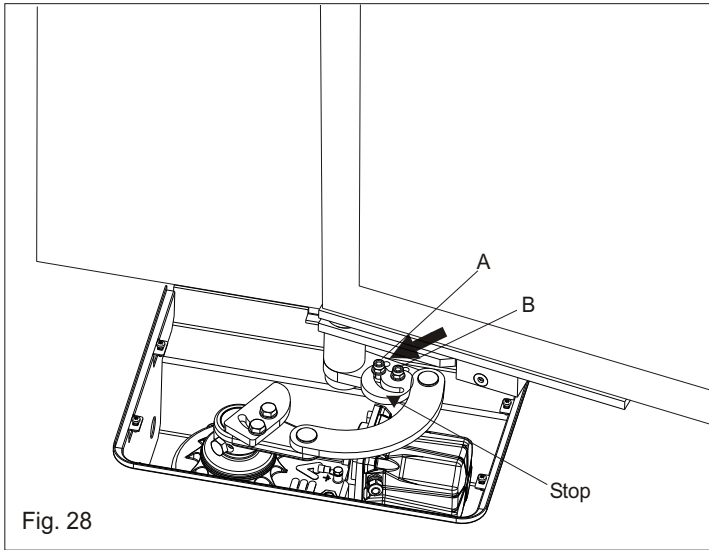

Fig. 28
6.4. Unscrew the nuts A and B, turn the cam with the counter-connecting rod until it reaches the stop and relock the nuts (Fig. 28)